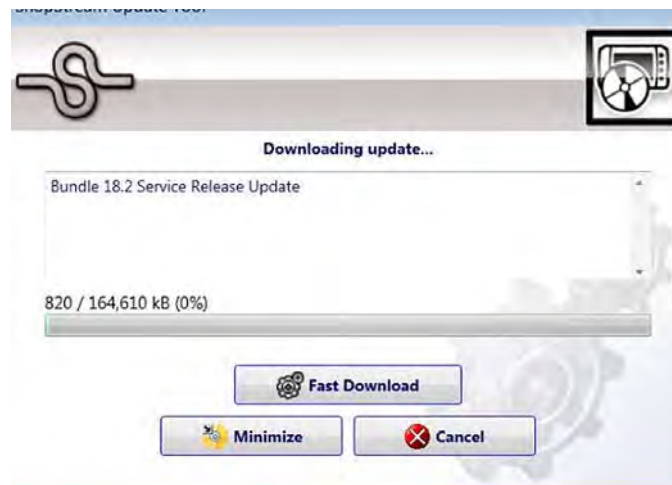

Figure 14-7 Typical - Update status window
- If updates are found, they will automatically begin to download (Figure 14-7).
To view the update status window (Figure 14-7), select **Show Progress** from the SST icon menu (Figure 14-2).
The percentage status bar may not always be displayed while downloading (Figure 14-7).